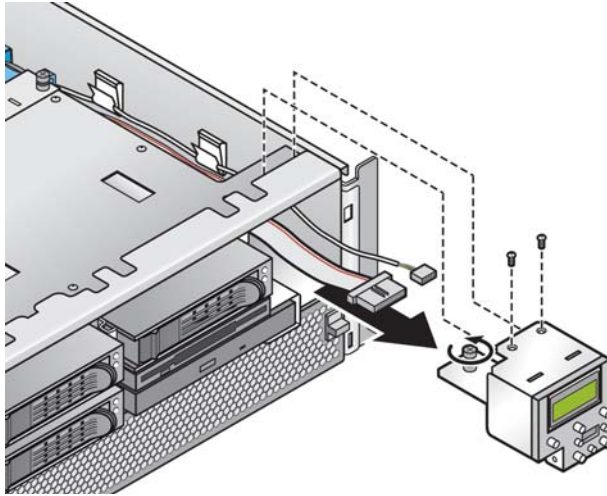

FIGURE 5-17 Removing the Operator Panel/LCD Assembly
2. Remove the two non-captive screws and loosen the single captive screw that secures the assembly to the chassis (see FIGURE 5-17).